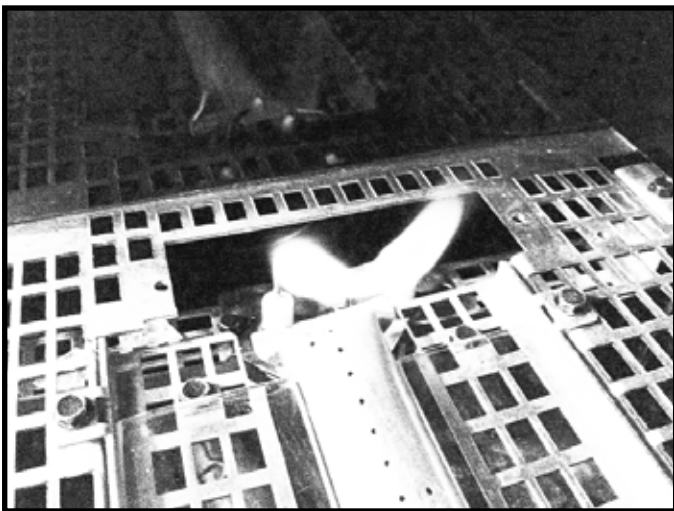

Figure 4.7 IPI Pilot Flame Pattern
- Inspect pilot flame pattern and strength. See Figure 4.7 for proper pilot flame pattern. Clean or replace orifice spud as necessary.